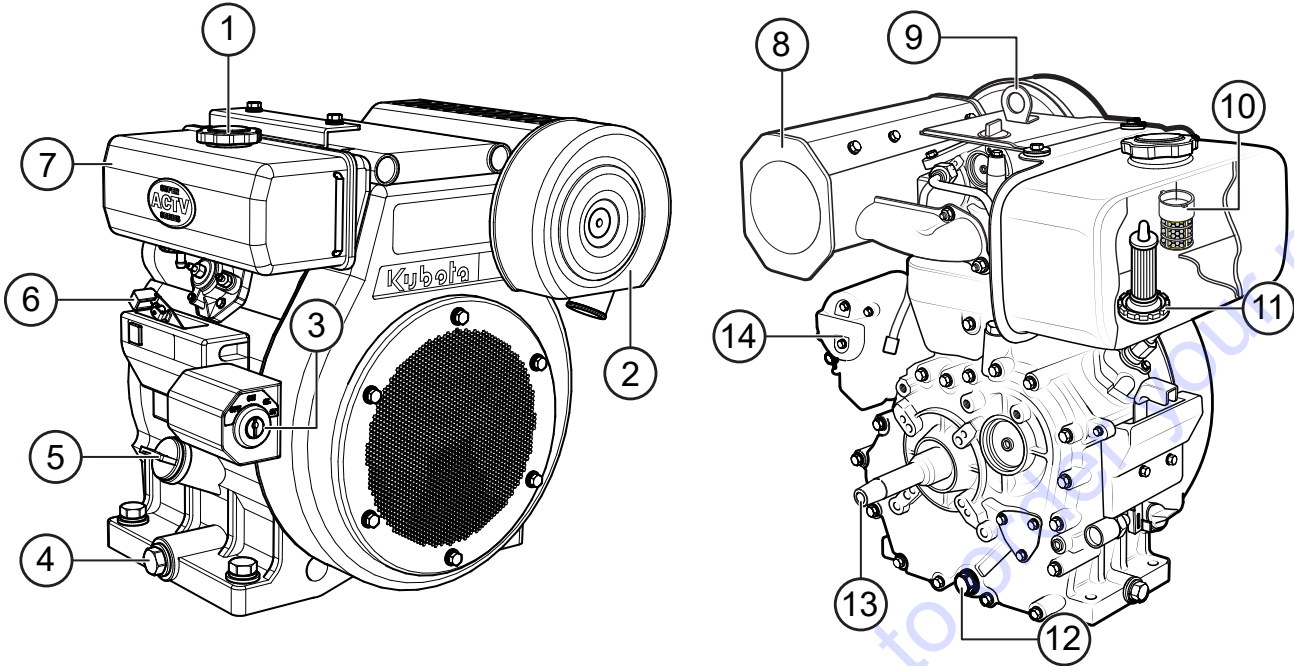

Figure 4. Kubota Engine Components
The engine (Figure 4) must be checked for proper lubrication and filled with fuel prior to operation. Refer to the manufacturer's engine manual for operation and maintenance information.
4. **Oil Drain Bolts (2)** — There are two oil drain bolts, one on each side of the engine. Remove either bolt to drain oil from the engine crankcase.
7. **Fuel Tank** — Model QP4TKT10 utilizes the engine's 1.45-gallon stock fuel tank (Figure 4). Model QP4TKT16 utilizes a 16-gallon polyethylene fuel tank secured within the trailer bed. Model QP4TKT28 utilizes a 28-gallon polyethylene fuel tank secured within the trailer bed. The use of low or ultra-low sulfur diesel fuels is recommended for optimal engine performance.
10. **Fuel Strainer** — Model QP4TKT10 utilizes the engine's stock fuel tank. The fuel strainer is located within the fuel fill port of the tank (Figure 4). Models QP4TKT16 and QP4TKT28 utilize a polyethylene fuel tank secured within the trailer bed and **do not** provide an individual mechanical fuel strainer bowl.